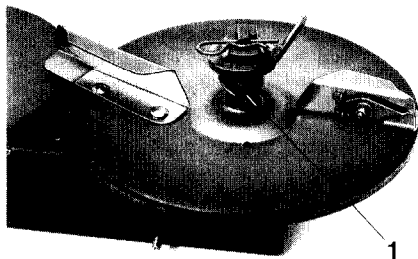
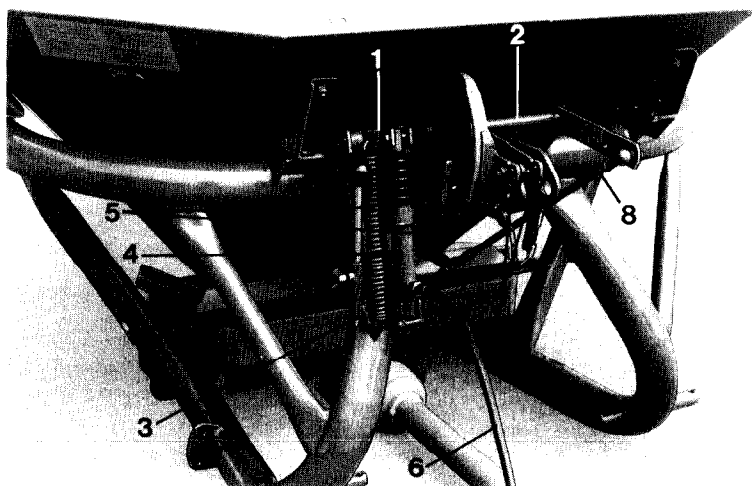

Fig. 9
Fig. 16
### 5.2 Stirrer head drive stop (Order No. 182 400) (Fig. 9)
If spreading to one side is required (see para. 3.6) in addition to shutting the shutter slide on that particular side, the rotation of the stirrer head can be stopped by simply pulling out a clip pin (Fig. 9/1) below the hopper tip.
- 5.9.1.1 Lever bracket (Fig. 16/1) should be mounted on the right arm lever (Fig. 16/2) and connected with a pin.
- 5.9.1.2 Slide the base (Fig. 16/3) onto the lever bracket (Fig. 16/1) and secure with two M 10 x 16 bolts to the frame.
- 5.9.1.3 With the aid of a small roll pin mount the hydraulic ram (Fig. 9/4) and connect with the M 8 bolt to the bracket (Fig. 16/1).
- 5.9.1.4 Hook the springs (Fig. 16/5) into the top of the bracket (Fig. 16/1).
- 5.9.1.5 Through the lower part of the ram mounting (Fig. 16/3) insert the bolts and tension the springs (Fig. 16/5) fully.
- 5.9.1.7 Connect the hydraulic hoses (Fig. 16/6).
- 5.9.1.8 Check the function. In case of stiff movement disconnect the springs (Fig. 16/5) and disconnect hydraulic hoses (Fig. 16/6). By actuating the control levers (Fig. 16/7) the shutter slides should then move easily. If movement still is stiff, disconnect the lifting rods at the ball joints (Fig. 16/8) and
- b) Check the free movement of the pivot shaft (Fig. 16/2). If necessary reset the fixing plate (Fig. 16/3) of the pivot shaft.